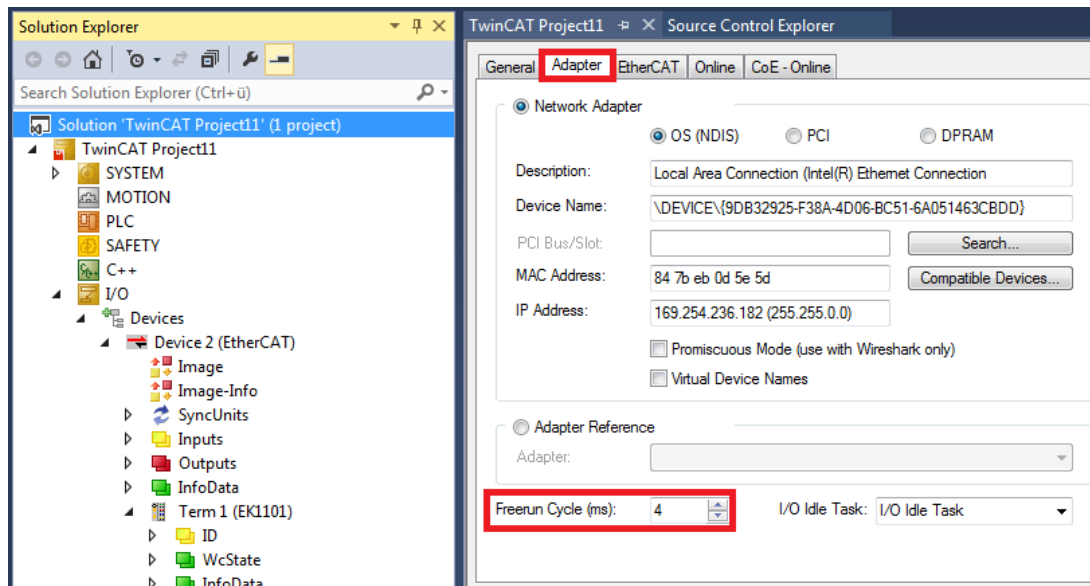

Figure 19: configure cycle time in Free Run mode
- c. The default cyclic time in Free Run mode is 4 ms. This setting can be changed in the “Freerun Cycle (ms)” text box of the master Adapter tab (Figure 19). The Free Run cycle time shall be always a multiple integer of the TwinCAT Base Time.